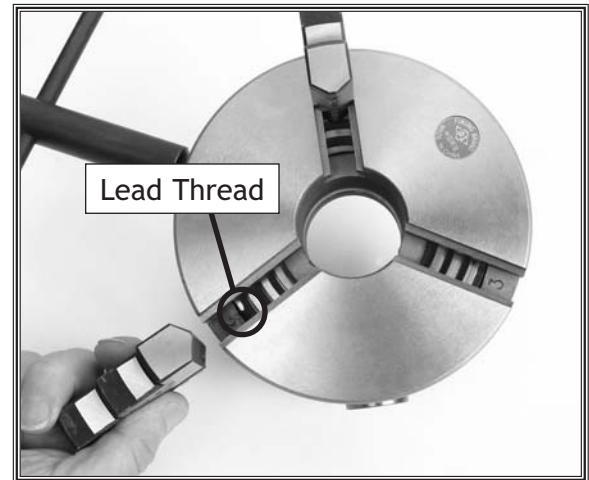

Figure 25. Lead thread coming in to view for jaw #2.
7. Turn the chuck key so the leading thread of the scroll picks up the first thread on the jaw. When the lead thread engages, you will see the jaw being drawn to the center of the chuck (see **Figure 25**).